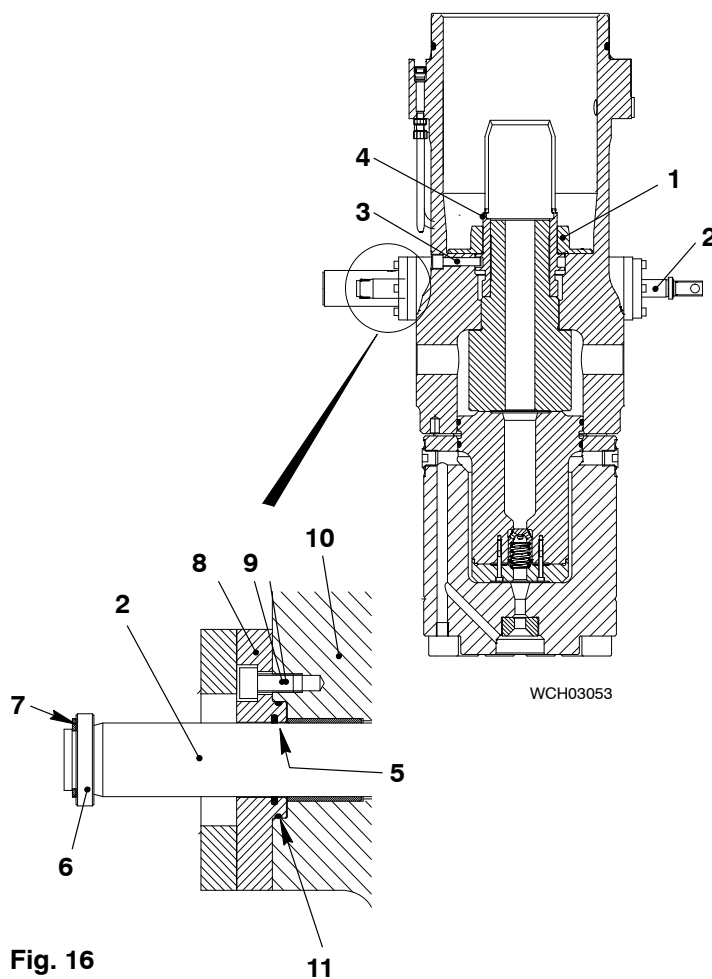

Fig. 16
- 1) Turn the fuel pump into the position shown in Fig. 16.
- 2) Put the toothed rack (2) in position.
- Note: Make sure that the toothed rack (2) moves easily.**
- 3) Put oil on the rod seal ring (5).
- 4) Put the rod seal ring (5) into the intermediate flange (8).
- 5) Put the intermediate flange (8) together with the O-ring (11) into the top housing (10).
- 6) Install the three screws (9).
- 7) Attach the rings (6) and the circlips (7).